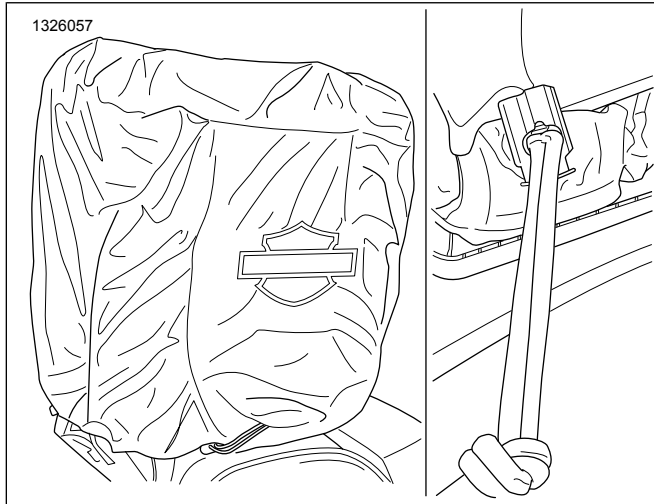

Figure 14. Rain Cover
1. Figure 14 Pull rain cover over entire bag with Bar and Shield facing front of bag.